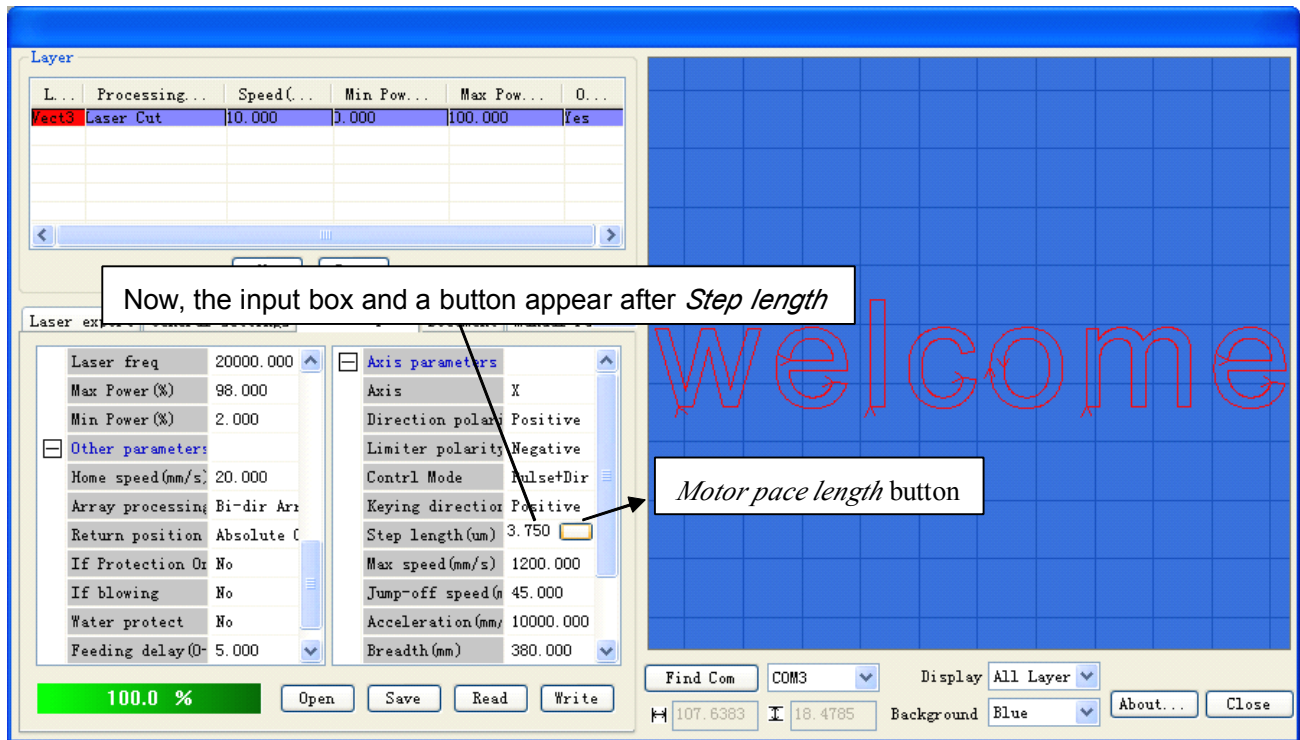

Figure 1-52
- ④ In the menu as shown in Figure 1-52, click on the *Step length* button, the menu as shown in Figure 1-55 will appear: